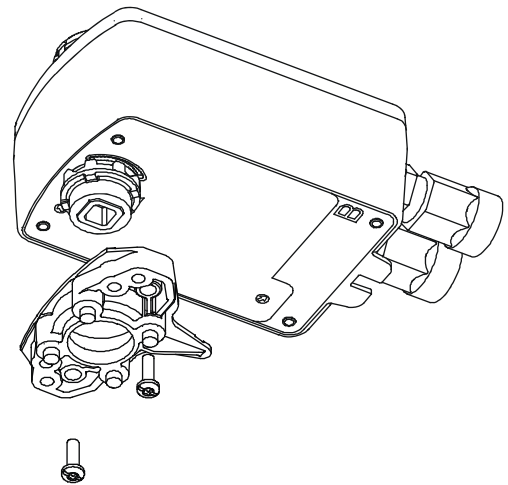

Figure 7: Installing the Linkage
5. Install linkage base on Side B using the two #8-32 x 0.625 in. long screws (Figure 7). The recommended torque is 29 to 33 lb-in. (3.3 to 3.7 N-m).